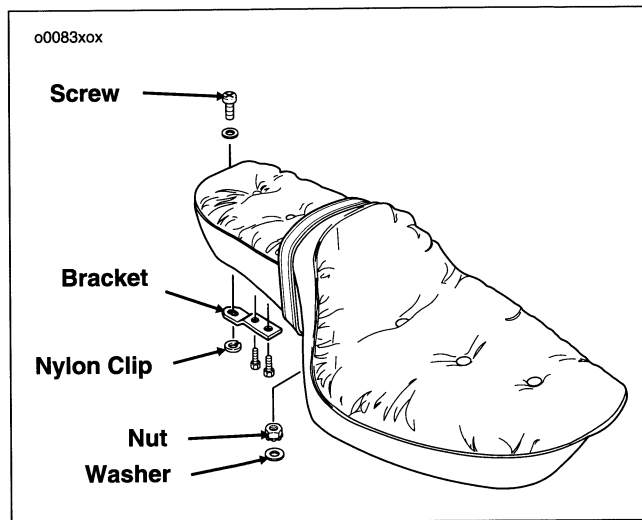

Figure 46. Seat (FXD Model)
1. See Figure 46. Detach seat mounting bracket from top of rear fender.
3. See Figure 46. Push seat forward until rear fender seat retention nut is centered in hole of mounting bracket.